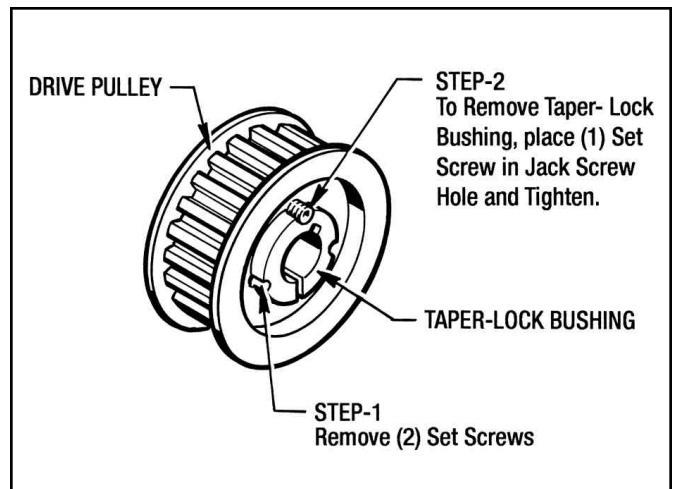

Figure 7.2 - Removing Drive Pulley
2. Loosen the belt tension by backing-off the (4) top Jam Nuts (#152). Remove the Timing Belt from the Pulleys.
3. Unscrew the (4) motor hold-down bolts and with an over-head hoist remove the Drive Motor.
4. Take the Pulley off the Posidyne Input Shaft. (See Figure 7.2 for procedure.)